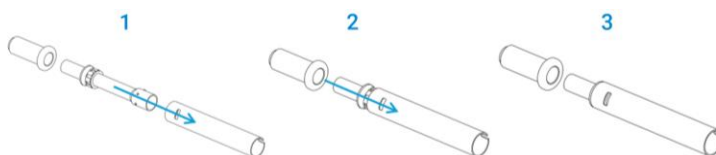

Figure 12 Illustrated view showing the reassembly of the ceramic outer tube-set
1. Carefully insert the intermediate tube into the ceramic outer tube until it reaches the polymer adapter. See Figure 12.